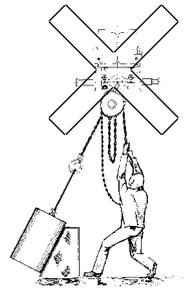

Fig. 3
- Avoid side pull, i. e. side load on either clevis load bar or side plates (Fig. 3). Always lift within a straight line between clevis load bar suspension point and load attachment point.